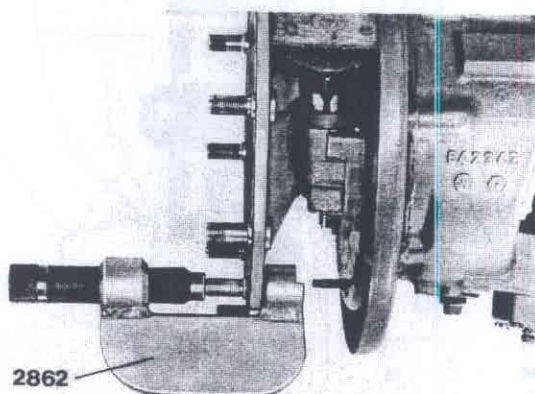

Fig. 77-2. Pressing out the wheel stud
4. Press out the wheel stud with press tool 2862, see Fig. 77-2.